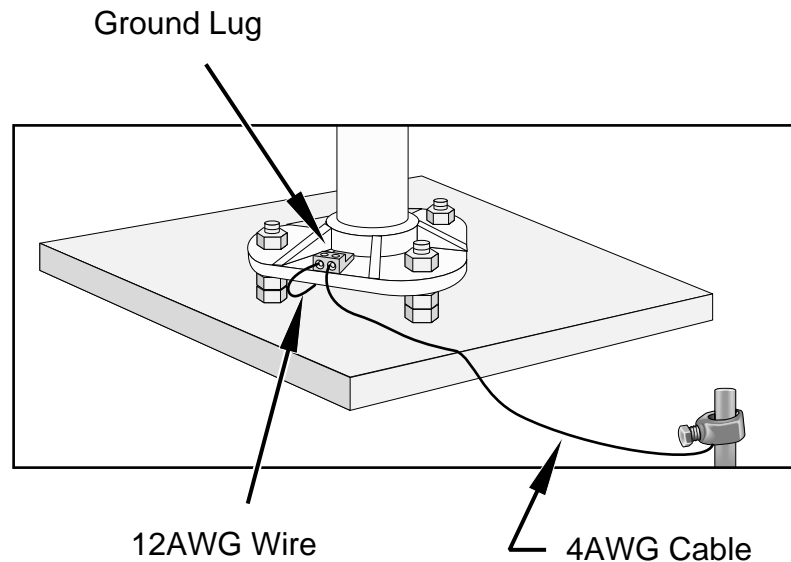

FIGURE 2.2-1. Raising and Grounding the T.Weather 106 Tower
Attach the tower to the base as shown in Figure 2.2-1.
Ground the tower as shown in Figure 2.2-1.
3. Strip 1 inch of insulation from both ends of the 4 AWG ground cable. Strip 1 inch of insulation from the lower end of the 14 AWG ground wire. Install the tower grounding lug to the tower base with the 7/16 bolt provided (Figure 2.2-1). Loosen the lug's set screw and insert the 4 AWG and 14 AWG wire. Tighten the set screw.
4. Loosen the ground rod clamp. Insert the 4 AWG wire. Tighten the clamp (Figure 2.2-1).